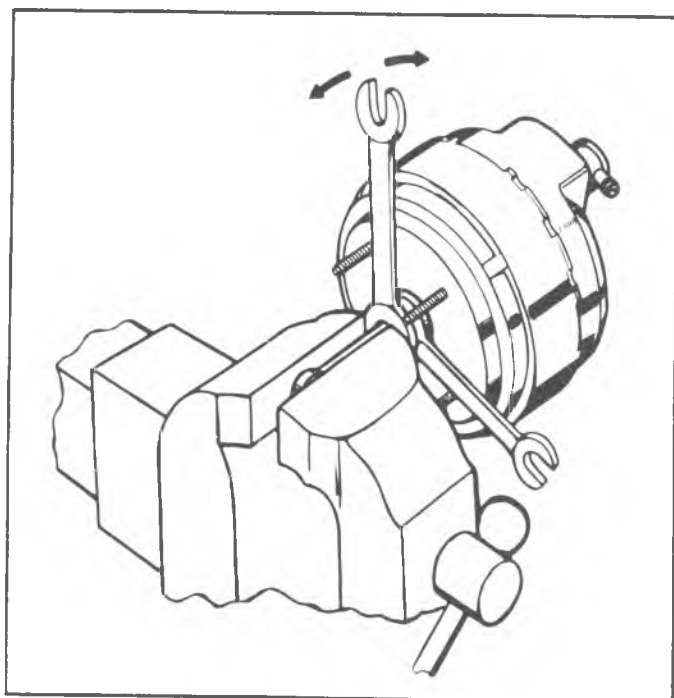

Fig. 3D--Removing Push Rod
10. Using the wrench nearest the vise as a pry, force the air valve off the ball end of the push rod. DO NOT damage the plastic hub or allow vacuum cylinder to fall to the floor (fig. 3D).